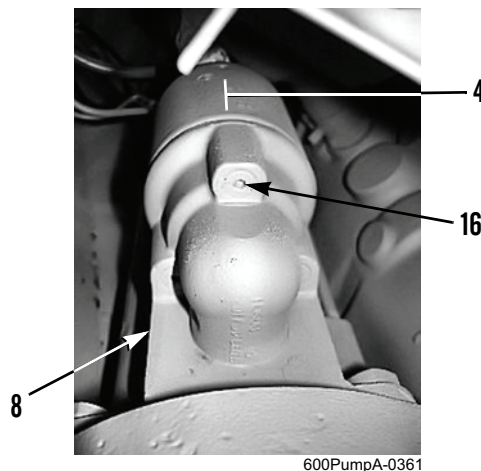

Figure 5. Starter Solenoid.
7. Remove three screws (Figure 5, Item 16) and starter solenoid (Figure 5, Item 4) from starter (Figure 5, Item 8).
1. Install starter solenoid (Figure 5, Item 4) to starter (Figure 5, Item 8) with three screws (Figure 5, Item 16).